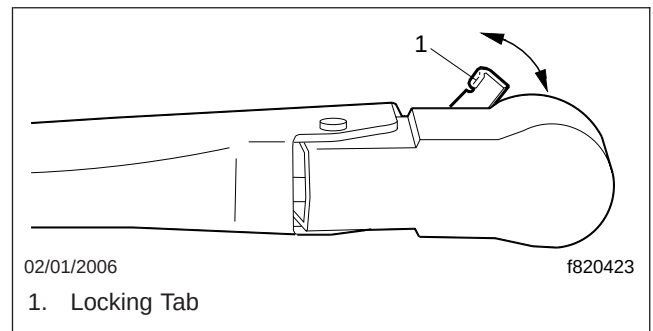

Fig. 3, Wiper Arm Lock
- 6.2 With the wiper arm pulled away from the windshield, pull up the locking tab near the pivot end of the wiper arm; see Fig. 3. Remove the wiper arm from the wiper shaft.